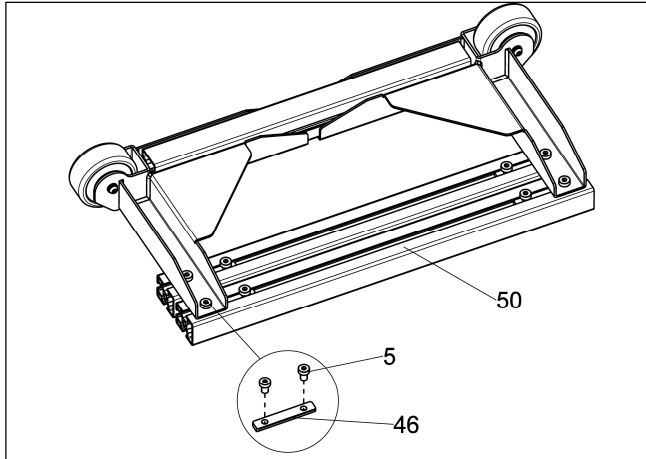

Fig.5
a. Place the rear-corner bracket assembly "A" upside down on the ground, loosen the fastener "5", and remove the long side rail "50" and the locking block "46". (see Fig.5)